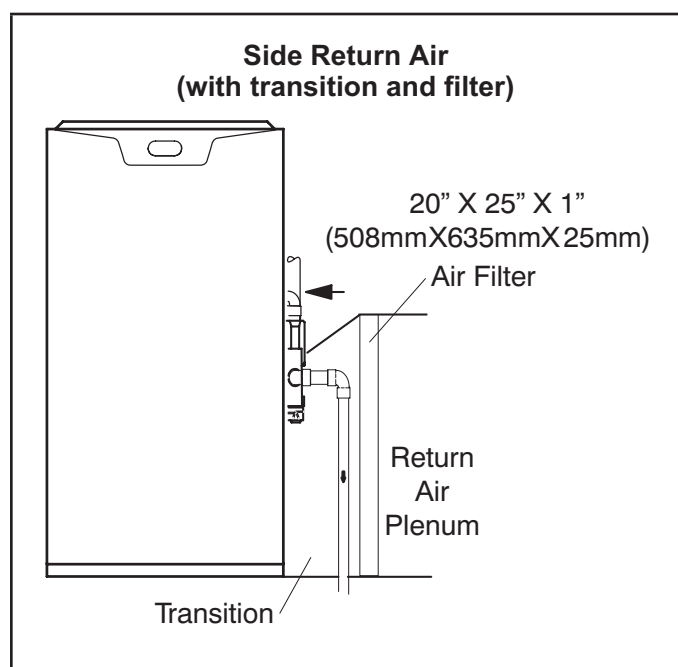

Figure 13
**ML196UHE applications which include side return air and a condensate trap installed on the same side of the cabinet (trap can be installed remotely within 5 ft.) require either a return air base or field-fabricated transition to accommodate an optional IAQ accessory taller than 14.5". See Figure 13.**